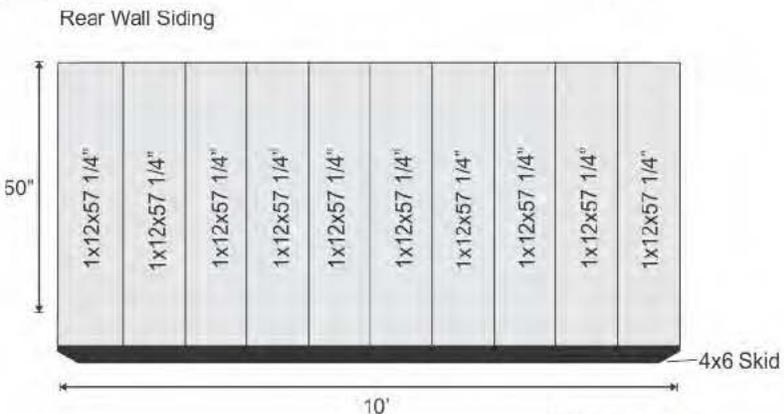

Figure 2
**Step 2.** Set the siding to hang below rim joists a 1/4" to ensure water drainage. Figure 2.